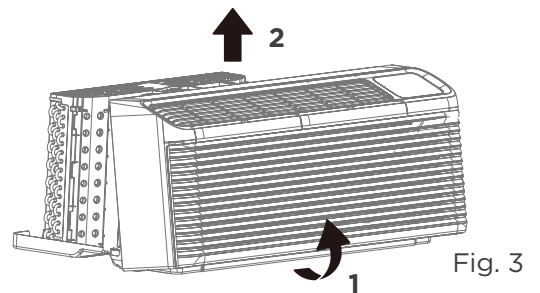

Fig. 3
2. lift the front panel up. (See Fig. 3.)